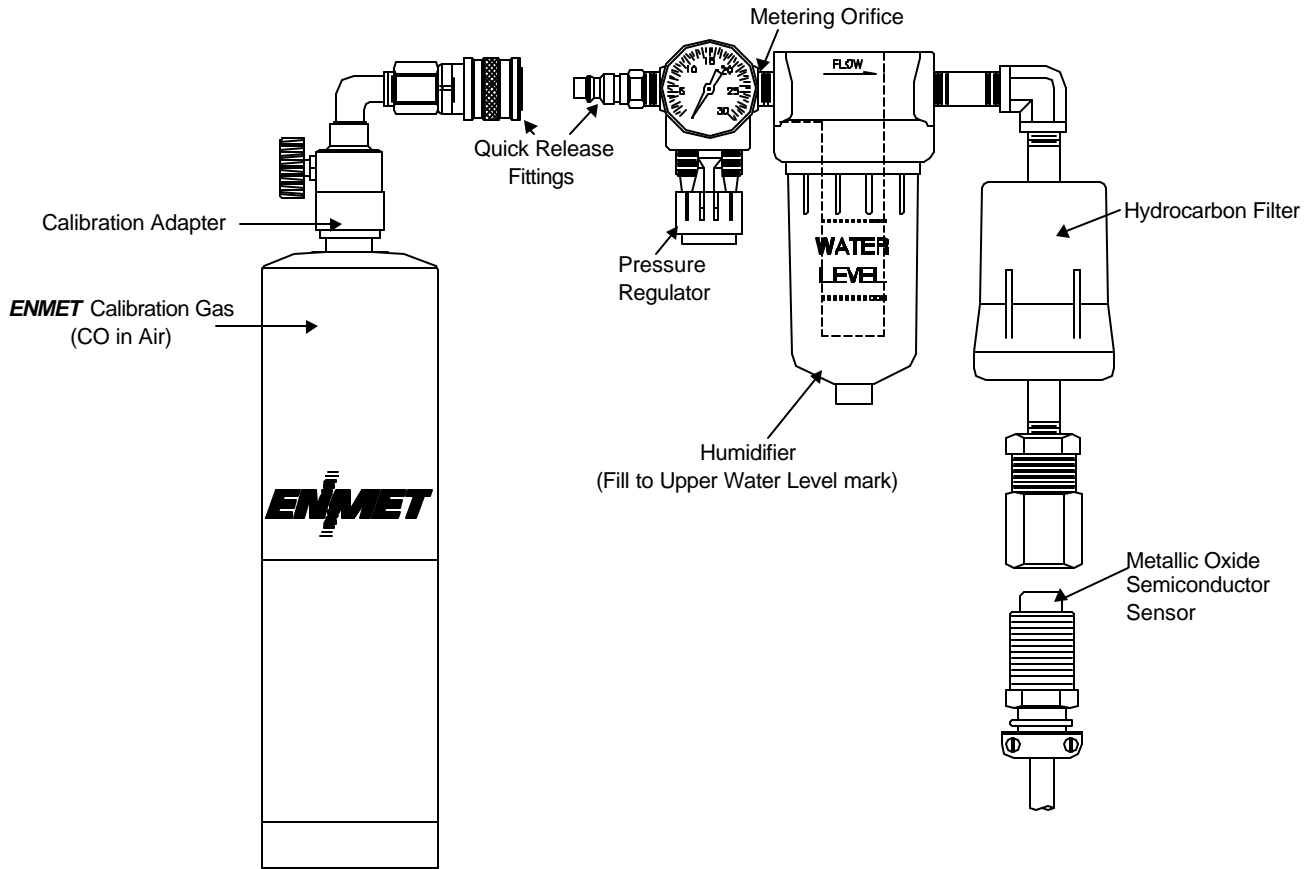

Figure 7: Calibration Adapter and Gas
5. Remove the compressed air line and insert the calibration adapter (Figure 7).